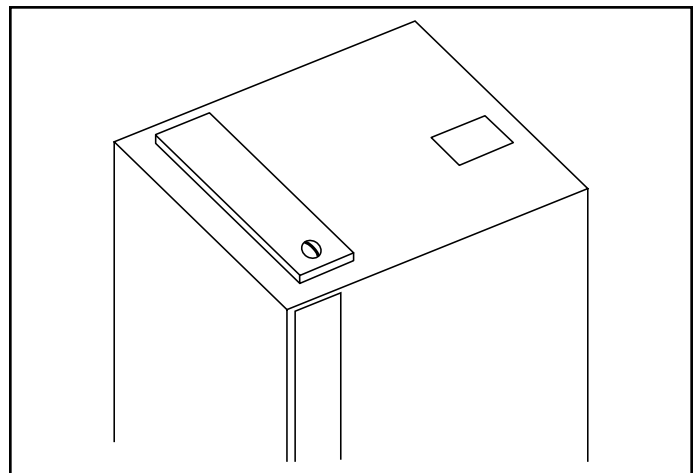

Figure 6. Secure Filter Access Panel
- a. For all units except 3-ton models, position filter access panel to close off top return opening. Secure at rear using two sheet metal screws. Secure in front using knob. See Figure 6.